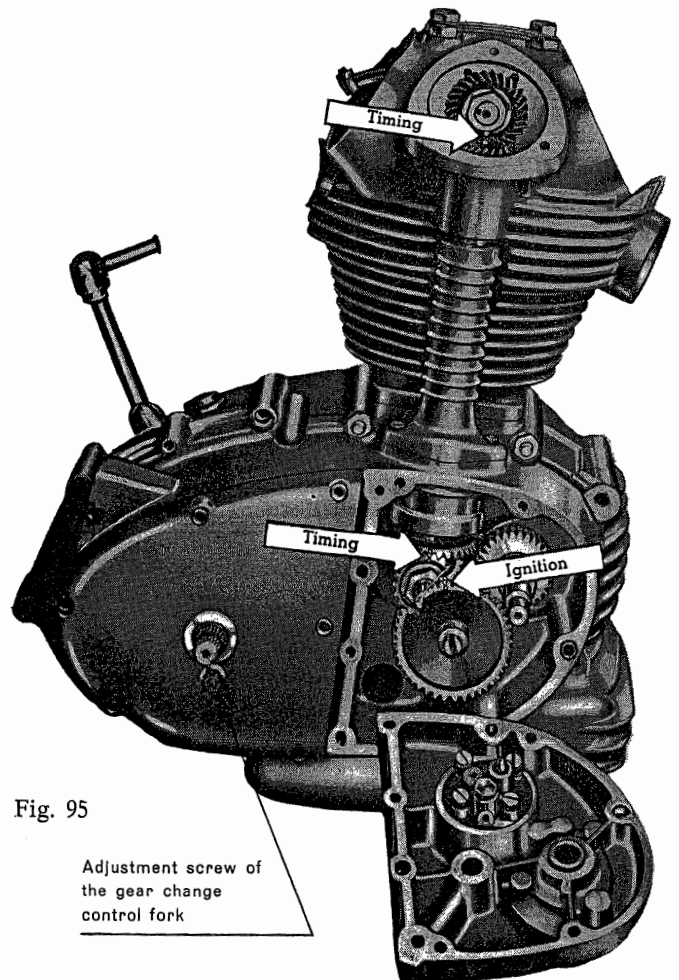

Fig. 95
- 1) The gears are not timed (see Fig. 95, page 88).
This clearance must be adjusted and checked with a feeler gauge after engine is timed (see Fig. 95 at page 88).